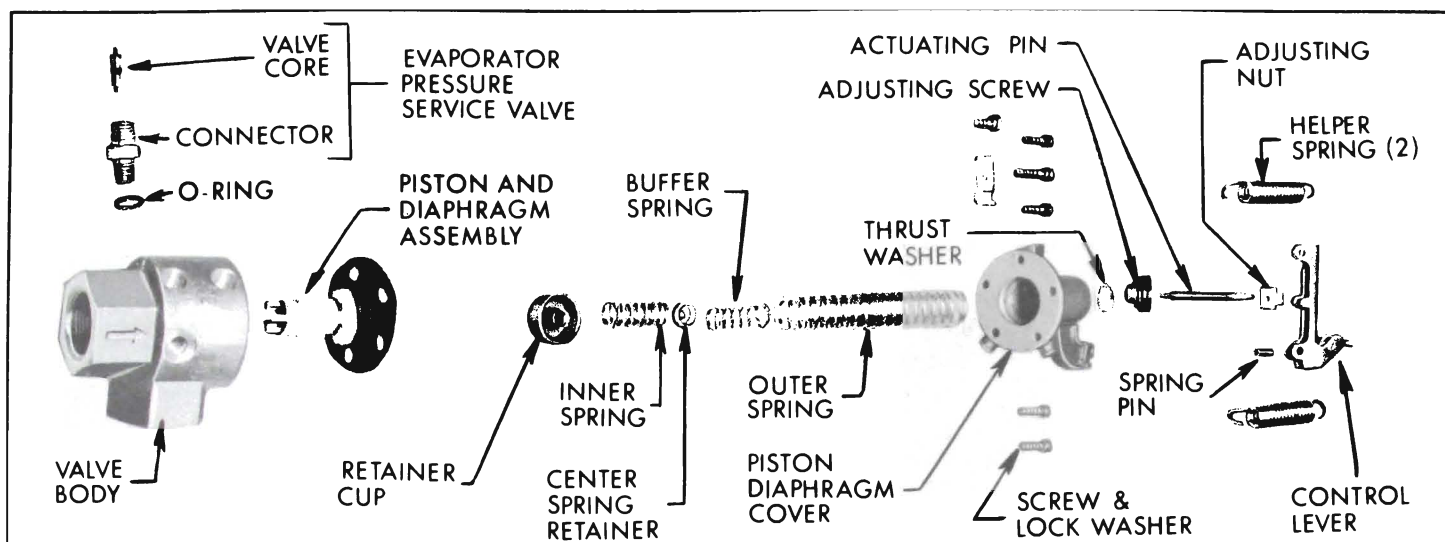

Figure 11-99—Exploded View of Suction Throttle Valve
1. Remove bracket from valve. Securely hold the suction throttle valve and unhook the end of the helper springs from the notch in the control lever. See Figure 11-99.